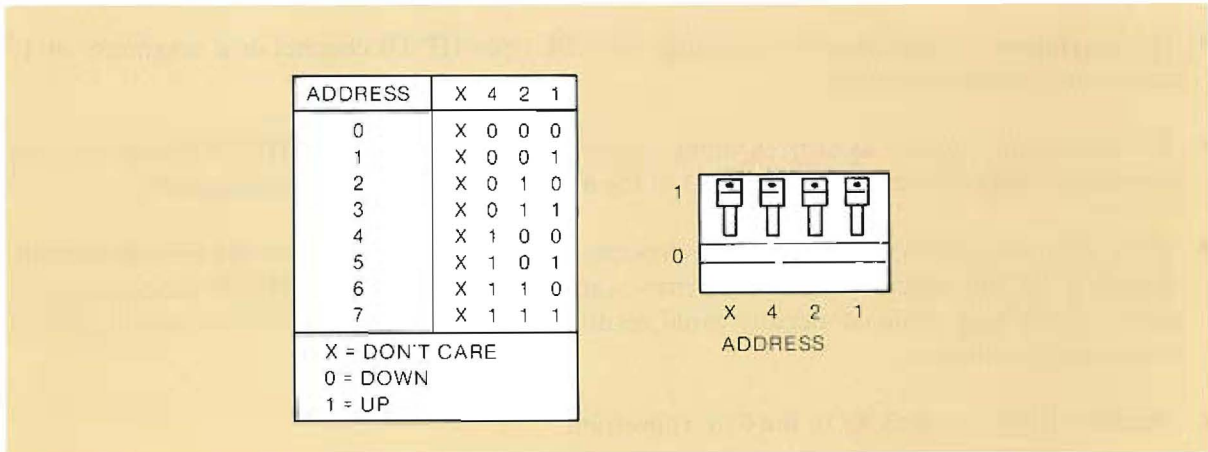

Figure 5. ADDRESS Switch
- b. Set the ADDRESS switch **9** on the rear panel to the desired HP-IB device address using the coding scheme marked on the panel. Disregard any markings on the switch itself. Use the tip of a ballpoint pen or similar object to operate the switches. Figure 5, ADDRESS Switch, shows the ADDRESS switch **9** settings for HP-IB addresses 0 through 7.